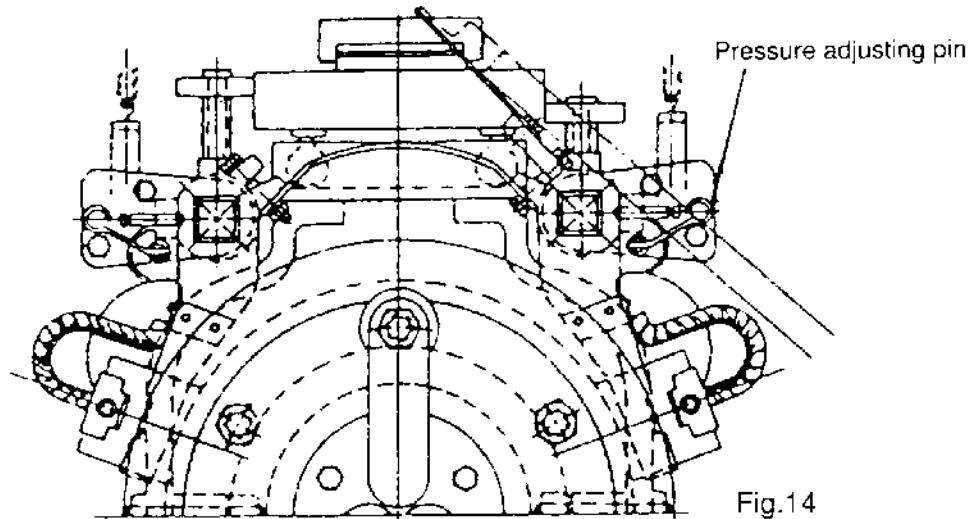

Fig.14
- The brush pressure may be reduced after use, so it is necessary to re-adjust. For adjustment, please turn adjusting screw, pressure adjusting pin or pressure adjusting plate as shown in Fig. 14 to obtain the correct tension (= 3.27 x brush cross sectional area in inches²) +/- 0.2 lbs" (=0.23 x brush cross sectional area in cm²) ±10% kg).